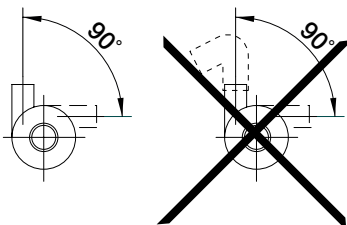

Figure 2
- To avoid airlocks when mounted horizontally, the body should be turned in such a way that the outlet is directed upwards or is placed on the upper side of the pump body (see *Figure 2*). The outlet hose after the pump must be horizontal or directed upwards to evacuate air.